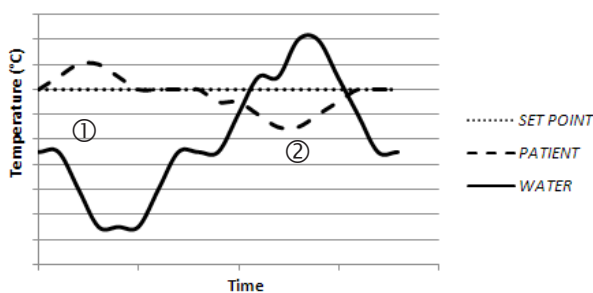

Figure 12—Water Temperature Fluctuation Graph
The machine is designed to use the water to warm or to cool the patient based on the SET POINT. When the PATIENT temperature is higher than the SET POINT (see ① in FIGURE 12 below), the machine will automatically lower the WATER temperature to bring the PATIENT temperature back to the SET POINT. In the same manner, when the PATIENT temperature is lower than the SET POINT (see ② in FIGURE 12 below), the machine will automatically warm the water to increase the temperature of the patient.